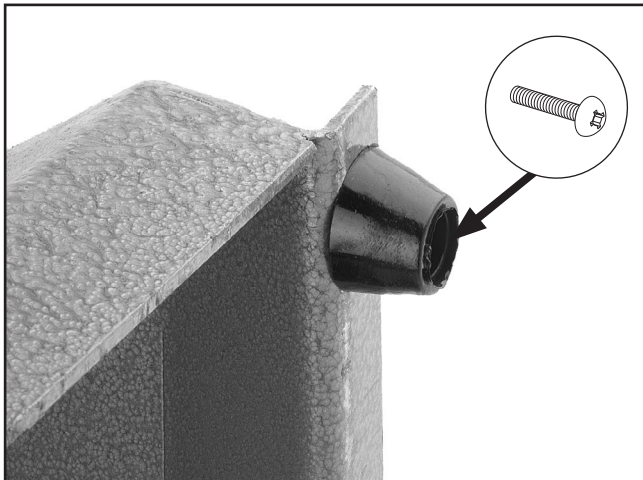

Figure 8. Foot installed.
2. Install the four feet in the bottom of the base using the four 10-24 x $\frac{3}{4}$ " Phillips head screws (**Figure 8**), then stand the machine upright.